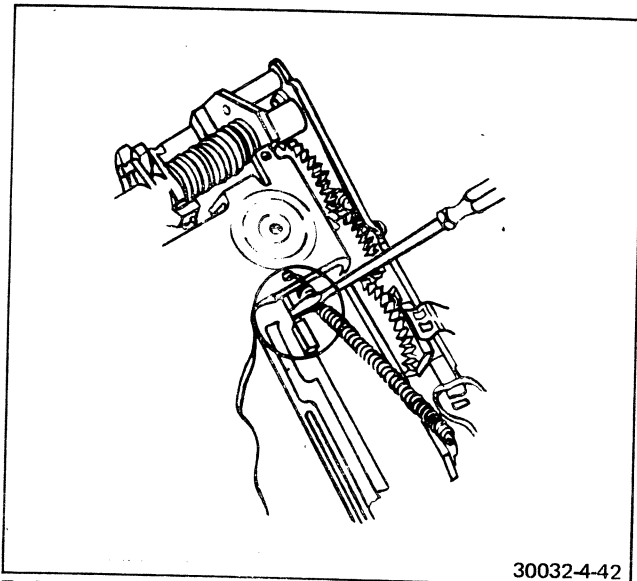

FIGURE 4-42 RELEASE BOOT RETAINER TAB
12. Refer to Figure 4-42. Use a narrow-blade jeweler's screwdriver. While pulling the corner of the mirror cover away from the frame, depress the boot retainer tab to clear the retaining stud. Release the pressure as soon as the tab snaps free.